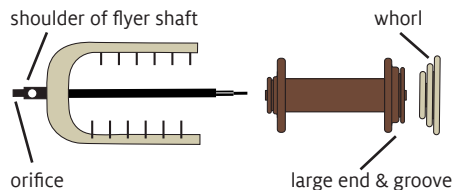

FIGURE 5: SET UP FLYER
7. Set up the flyer with bobbin and whorl: One bobbin was stored under the maidens; remove it and place it on the flyer shaft, with the large end at the back of the flyer. Choose one of the whorls attached to the wheel and add it to the flyer shaft (Figure 5).